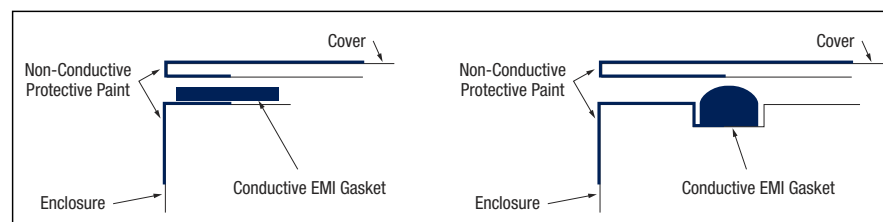

**Figure 2-4**
4. To prevent corrosion on outside edges exposed to severe corrosive environments, consider dual conductive/non-conductive gaskets (see Figure 2-4) – or – allow the non-conductive protective paint (normally applied to outside surfaces) to intrude slightly under the gasket mating surface (see Figure 2-5).